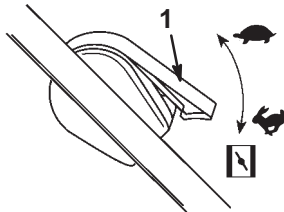

Figure 8
2. When starting a cold engine, move the throttle lever to the *Choke* position (Fig. 8).
1. Move throttle lever to the *Slow* position (Fig. 8).